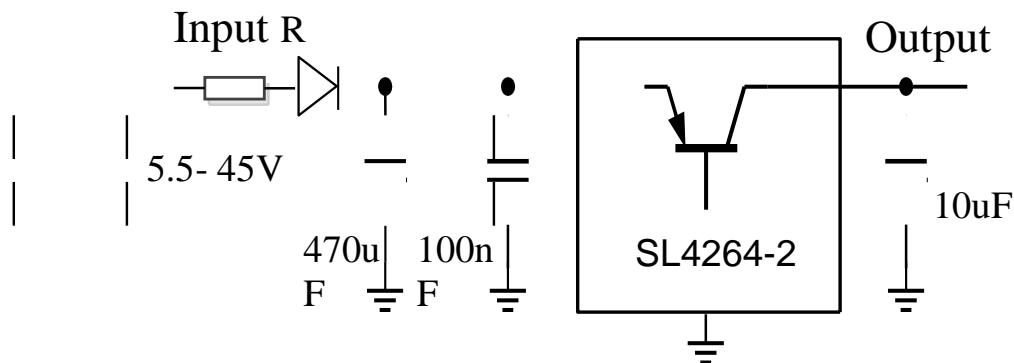

Figure 6-1 Typical application circuit
- 2) Figure 6-1 shows a typical application circuit. To ensure that the control loop is stable, an output capacitor with a capacitance of at least 1uF and a maximum ESR of 4R is required at the output. Both tantalum capacitors and multilayer ceramic capacitors are suitable.
- 4) To buffer power line effects, an additional 470uF electrolytic input capacitor is added to the application circuit shown in Figure 6-1. This capacitor is recommended if the device is powered by a power line several meters long.